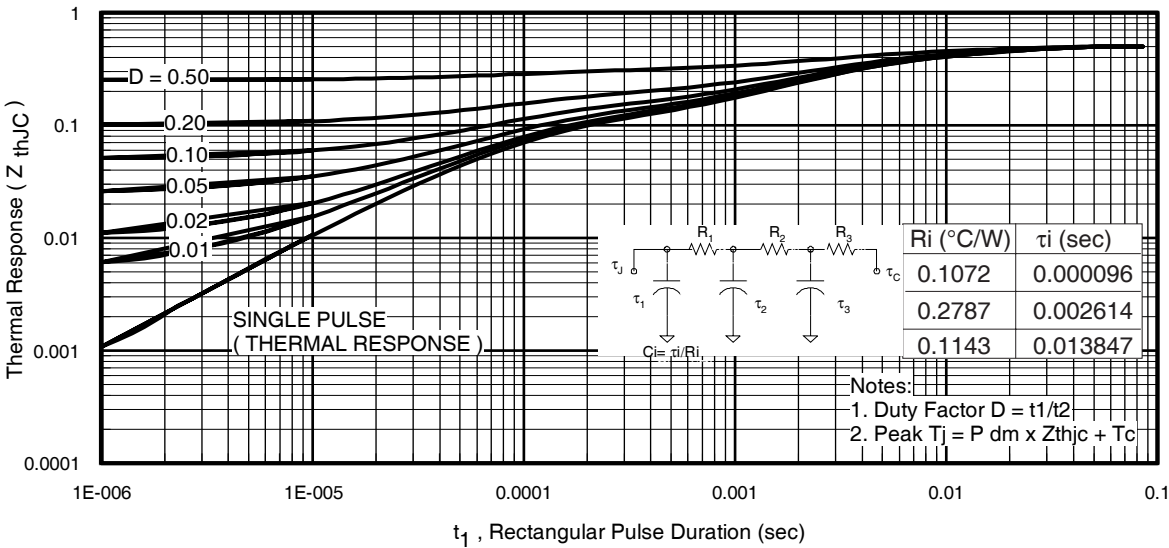

Fig 11. Maximum Effective Transient Thermal Impedance, Junction-to-Case
- ① Repetitive rating; pulse width limited by max. junction temperature. (See fig. 11).
- ② Limited by T_{Jmax} , starting $T_J = 25^\circ\text{C}$, $L = 0.026\text{mH}$, $R_G = 25\Omega$, $I_{AS} = 110A$, $V_{GS} = 10V$. Part not recommended for use above this value.
- ③ Pulse width $\leq 1.0\text{ms}$; duty cycle $\leq 2\%$.
- ④ $C_{oss \text{ eff.}}$ is a fixed capacitance that gives the same charging time as C_{oss} while V_{DS} is rising from 0 to 80% V_{DSS} .
- ⑤ This value determined from sample failure population starting $T_J = 25^\circ\text{C}$, $L = 0.026\text{mH}$, $R_G = 25\Omega$, $I_{AS} = 110A$, $V_{GS} = 10V$.
- ⑥ This is applied to D²Pak, when mounted on 1" square PCB (FR-4 or G-10 Material). For recommended footprint and soldering techniques refer to application note #AN-994.
- ⑦ R_θ is measured at T_J of approximately 90°C .
- ⑧ Solder mounted on IMS substrate.
$Z_{thJC}(D, t_{av})$ = Transient thermal resistance, see figure 11)